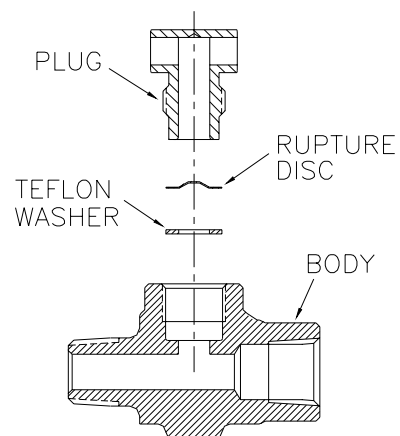

Figure 2: RV Series Rupture Disc Unit Exploded View
3. Refer to Figure 2. Remove and discard the Rupture Disc Plug by turning counter-clockwise with an 11/16 inch hex wrench.
3. Refer to Figure 2. Locate the Rupture Disc chamber. Install the PTFE or optional Metal Washer in the Rupture Disc chamber in the Body.